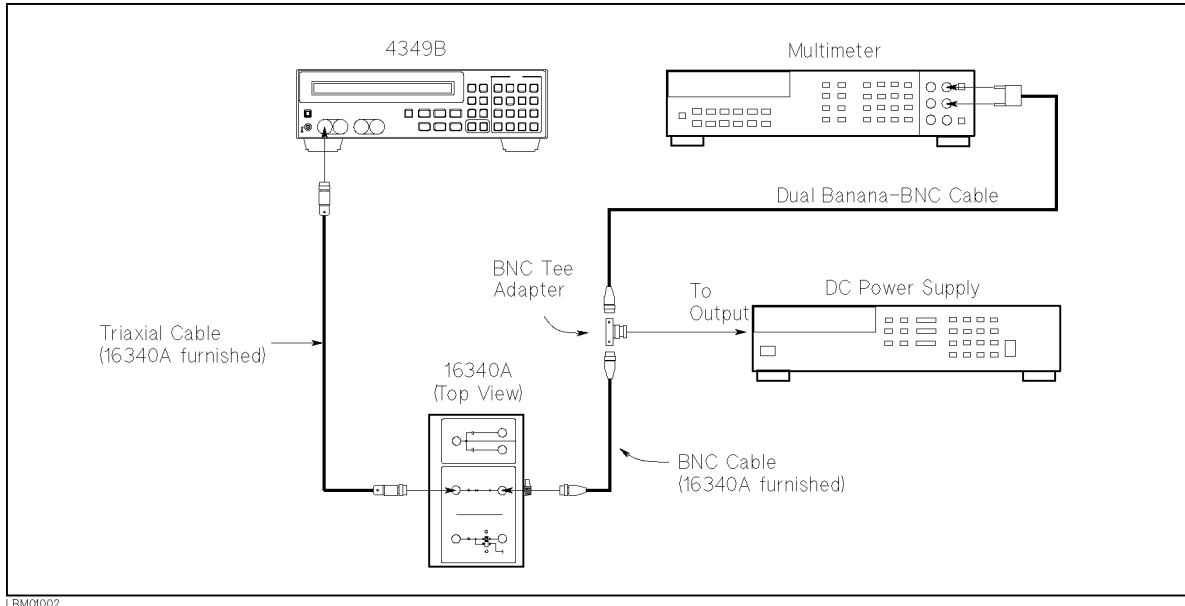
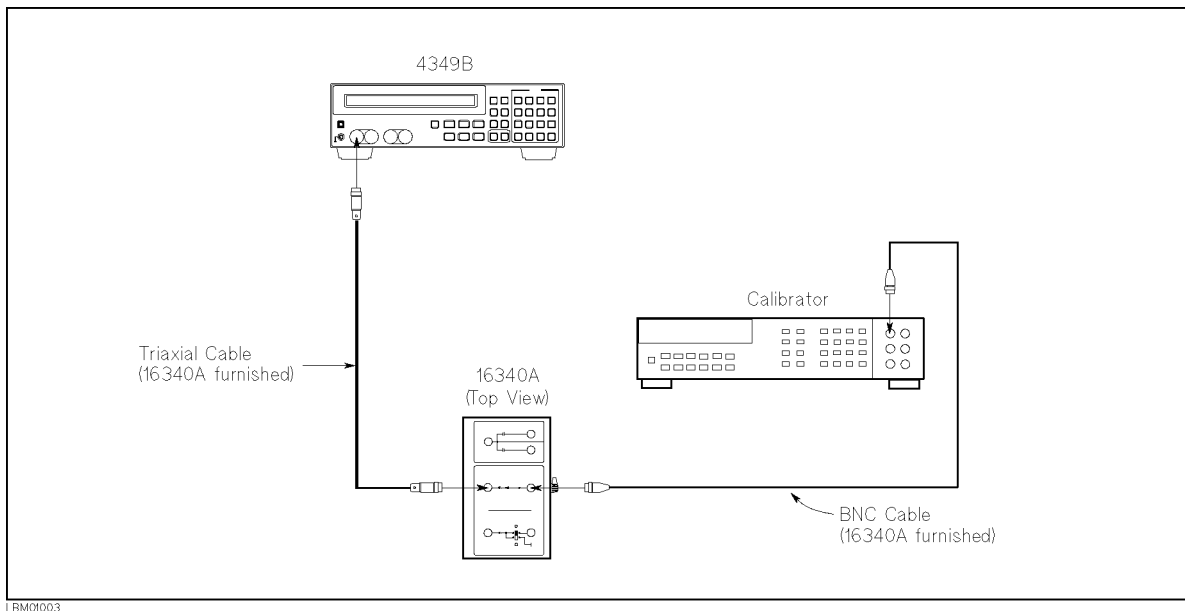

Figure 9-5. Current Measurement Accuracy Test Setup Using DC Power Supply
Figure 9-6. Current Measurement Accuracy Test Setup Using DC Voltage Calibrator
7. Set up the equipment as shown in Figure 9-5. If the DC Voltage Calibrator listed in Table 9-2 is available, setup the equipment as shown in Figure 9-6.